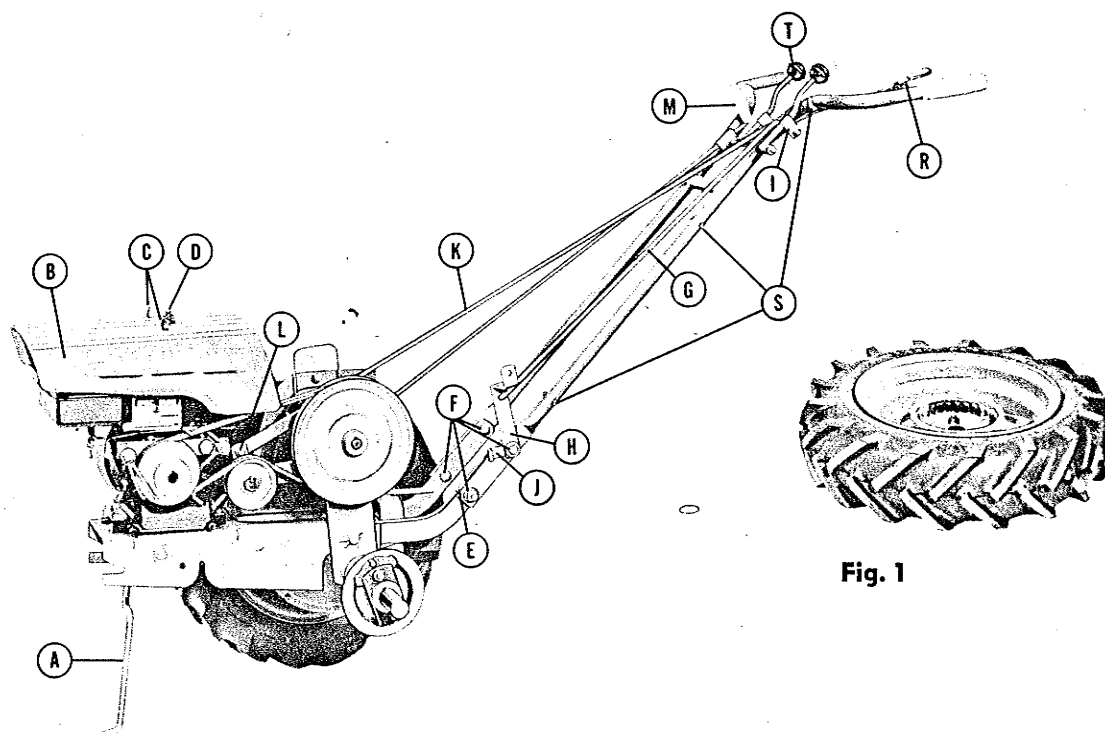

Fig. 1
6. Please refer to Figure 1. Attach throttle control lever (R) to the left hand handle with the throttle cable strung under the handle.
7. Clamp throttle cable to the handle with three clamps (S) as shown. NOTE: Screws and clamps for cable and throttle lever are packed in mailing bag tied to cable.